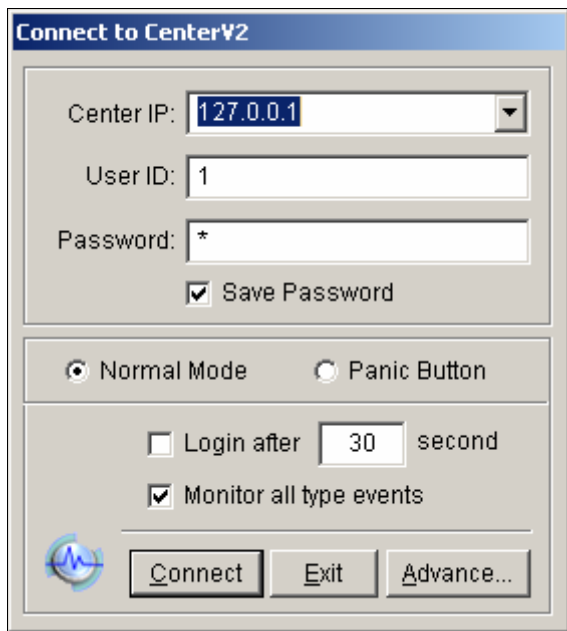

Figure 9-15 Connect to Center V2
To further define the communication conditions between the subscriber and Center V2, select **Normal Mode** on the Connect to Center V2 dialog box (Figure 9-15), and then click the **Advance** button for setup. The setup window includes these tabs: (1) General, (2) Camera, (3) Other and (4) I/O Device.
The settings define which camera condition to notify Center V2. To configure the event type, first disable the **Monitoring all type events** option in Figure 9-15.
The settings define which I/O condition to notify Center V2. To configure these settings, first disable the **Monitoring all type events** option in Figure 9-15.
You may set up a panic alarm button at your GV-System. In case of emergency, press the button immediately to send the associated video to Center V2. To set up a panic alarm, select **Panic Button** in the Connect to Center V2 dialog box (Figure 9-15), and click the **Advance** button. This dialog box appears.
Click  on the Connect to Center V2 dialog box (Figure 9-15). For details, see *Detecting Input Status* in Chapter 2.